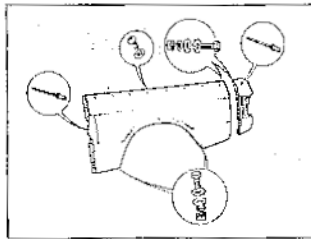

Fig. 12.3 The rear wing panel and fixings (Sec 9)
- 6 Unbolt or unscrew the other fastenings shown in Fig. 12.3 from the locations indicated and withdraw the complete panel. Detach the rear corner panel from the wing.